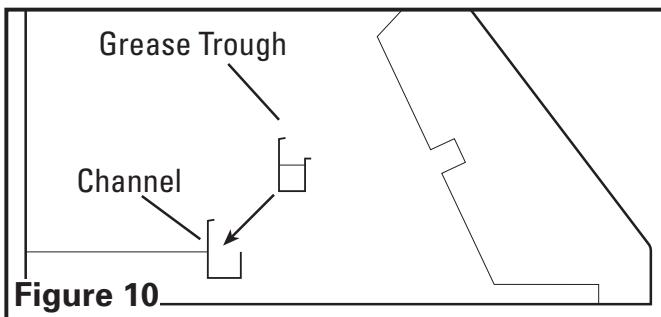

Figure 10
2. If the included removable grease trough is not already installed within the hood, insert into the rear inside channel of the hood. Make sure the taller side of the trough is facing towards the back of the hood (Figure 10).